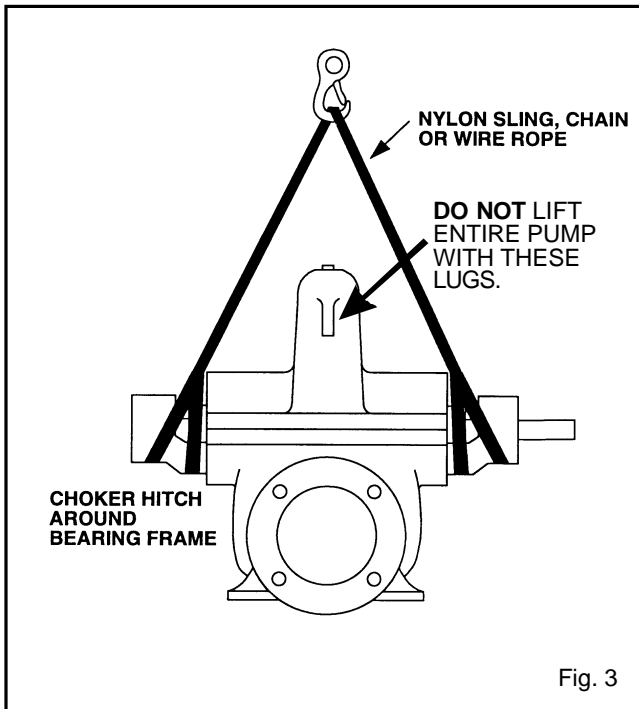

Fig. 3
1. Using a nylon sling, chain, or wire rope, hitch around both bearing housings. (See Fig. 3)